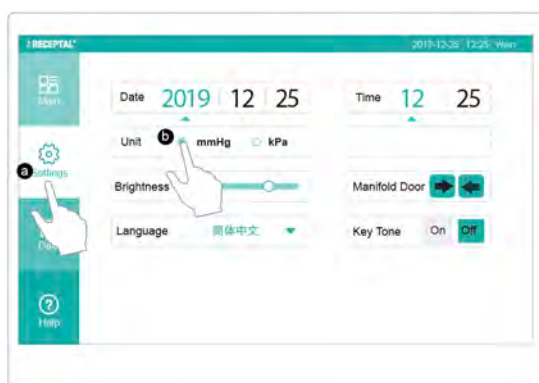

Figure 15 To Adjust the Rover
3. From the user interface, tap the Settings key to open the system setup view (Figure15).